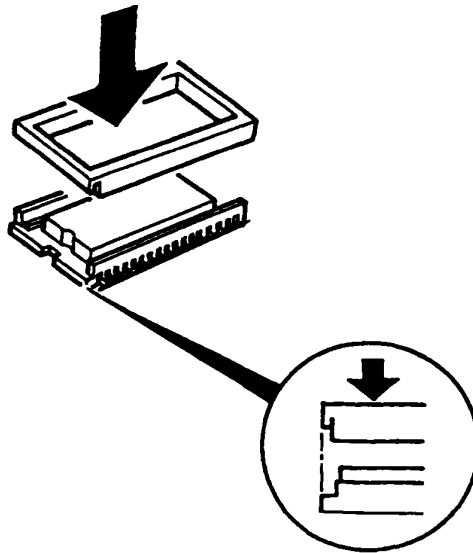

Figure 4-44 Aligning the plate
2. Align the left edge of the plate and socket. Firmly press down on the plate until it is seated (Figure 4-44).